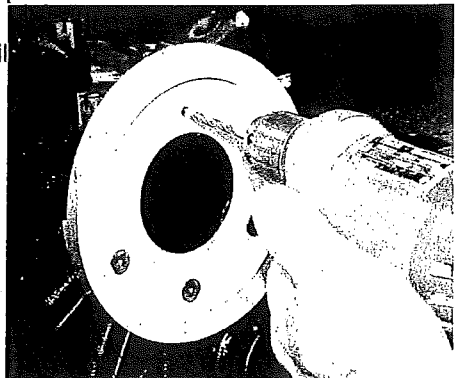

FIGURE 3
9) At this point it is necessary to drill a 3/16" hole through the web of the rear main cap to allow oil to drain from the cavity around the Seal into the trough in the main cap, down the tube and into the sump. Either drill directly through the 3/16" hole in the Retainer, (REFER TO FIGURE 3) or mark accordingly and drill the hole with a drill press or hand drill. Make certain that the drilled hole goes through the web into the chamber. Be sure to remove all drill chips. (If it is ever decided to no longer use the Seal Retainer, the hole in the main cap may be plugged with JB Weld or a similar product).